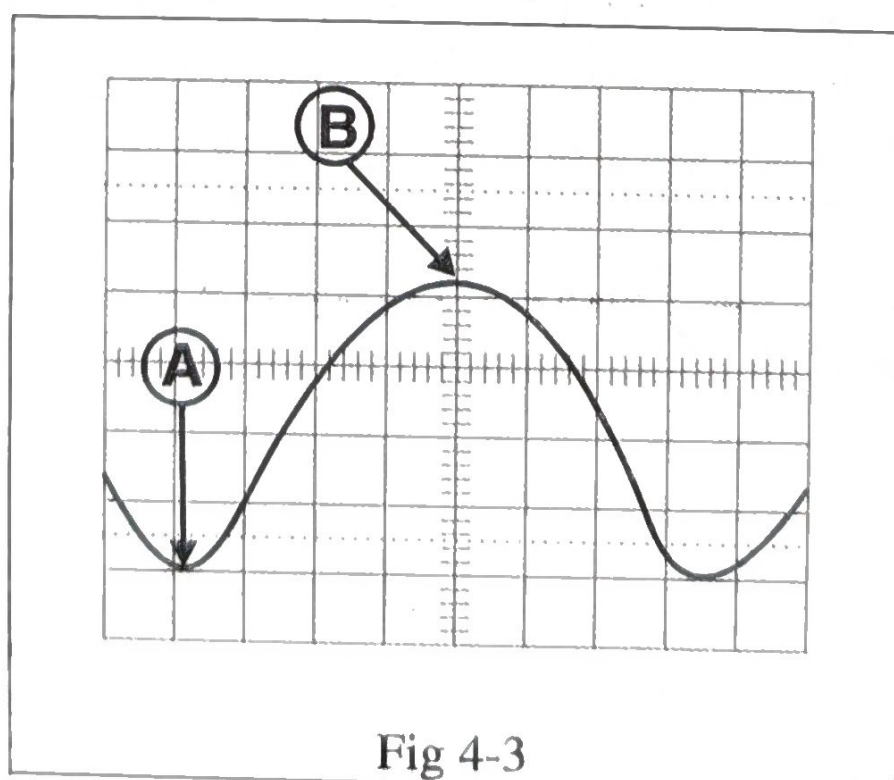

Fig 4-3
- (1) Connect an input signal to the Y Input [13] terminal.
- (2) Set the VOLT VAR [6] and TIME VAR [8] controls to the CAL positions.
- (3) Setup VOLTS/DIV [11] and TIME/DIV [12] to display the full signal on the display. Be careful not to cut any significant
- (4) Adjust the vertical position using POSITION [7] to make the bottom of waveform lie on a horizontal axis on the screen. Refer Fig 4-3, label A.
- (5) Adjust horizontal position using POSITION [9] to make the top of waveform lie on the center of vertical axis. Refer Fig 4-3 label B.
- (6) Count the vertical divisions between points A and B on the scale.
- (7) Calculate the signal V_{p-p} using the formula below:
For example, In Fig 4-3,